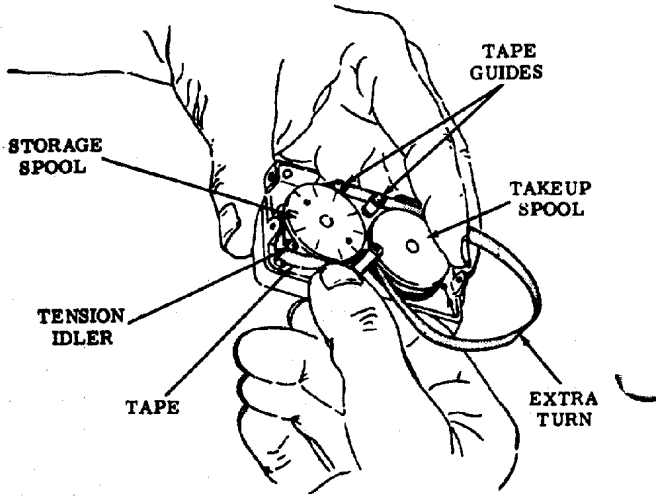

Figure 2-5. CA-3B Cartridge tape replacement.
Step 11. Pull out enough tape to make a complete extra turn around the core of the takeup spool (fig. 2-5). Attach the tape to the core with a short length of pressure-sensitive tape. The purpose of this extra turn is to provide a full turn of tape completely around the core of the spool when it is at rest. This insures a lasting attachment and prevents the adhesive tape from contaminating or touching the overlying layers of recording tape.